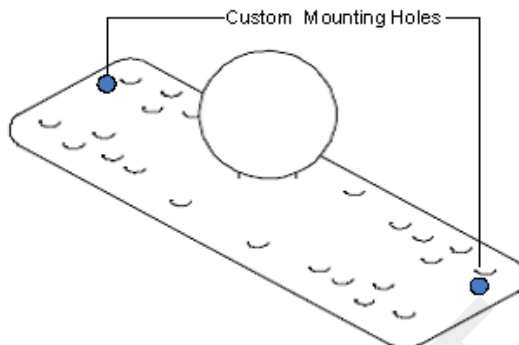

Figure 2.5. Factory installed ball plate (rectangular)
- SPP ball plate (rectangular, attached to the SPP at the factory, refer to Figure 2.5)